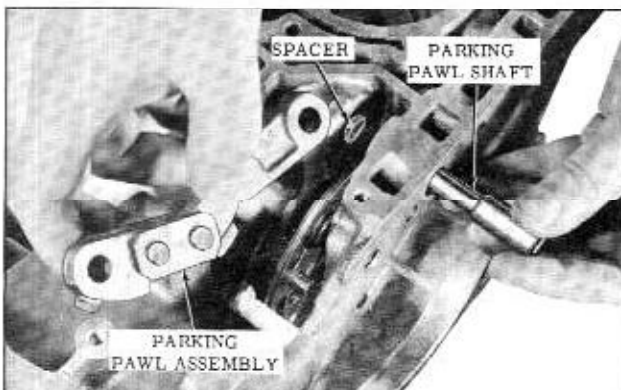

Fig. 3-104 Installing Parking Pawl
22. Install the parking pawl spacer into counter-bore in case. (Fig. 3-104)